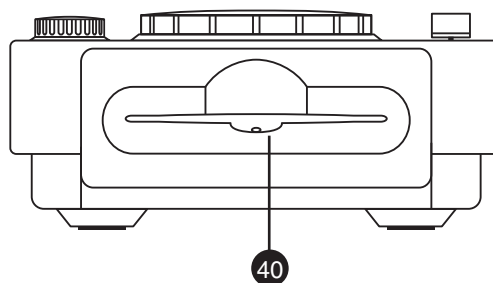

Figure 5
36. HEADPHONE VOLUME CONTROL - This knob will control the volume output level of the *HEADPHONE JACK* (35).
C. FRONT PANEL (FIGURE 5)